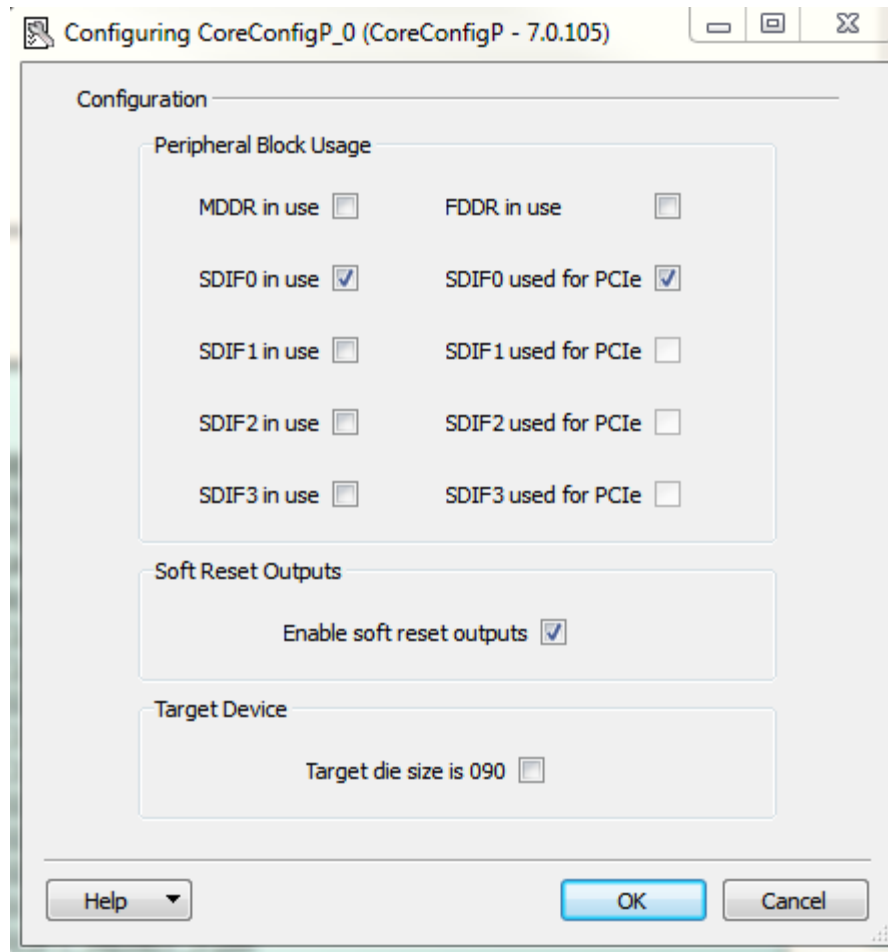

Figure 21• CoreConfigP Dialog Box
3. Check the appropriate checkboxes as shown in the figure below (Figure 21).